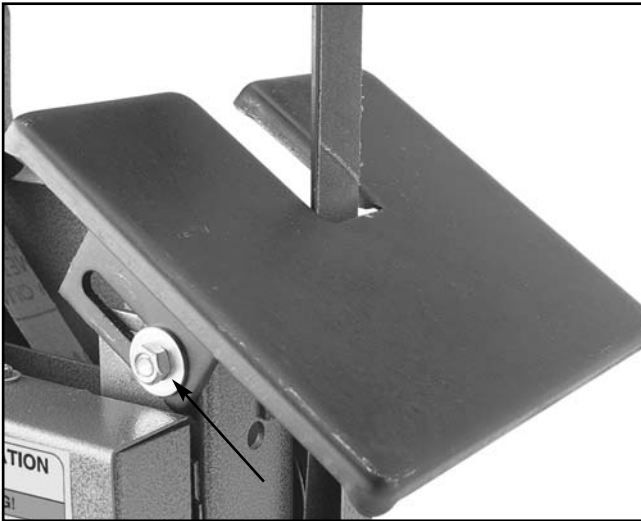

Figure 18. Belt table in tilted position.
1. Loosen the hex nut as shown in **Figure 18**.